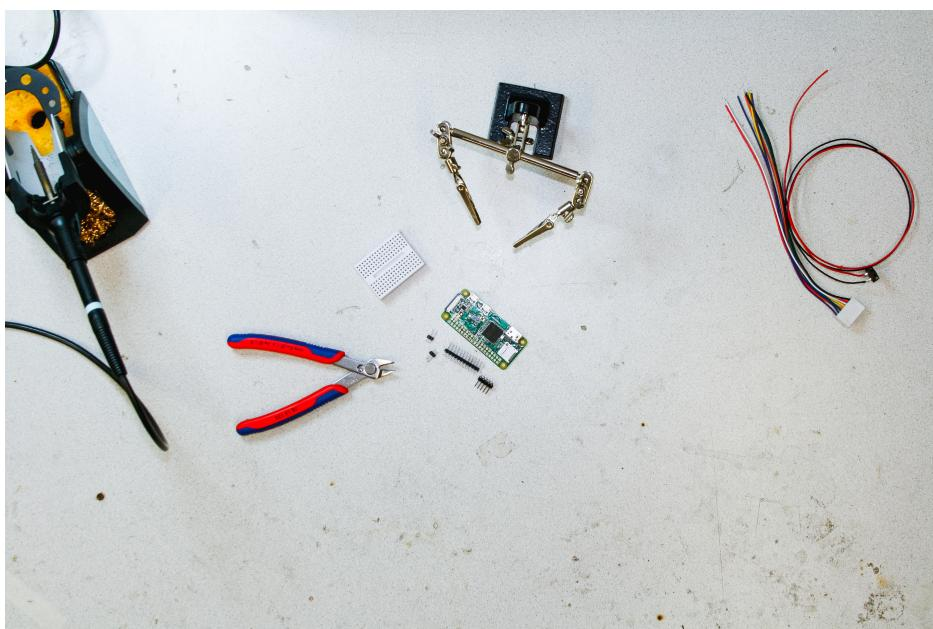

Figure 3.12: Cut the header pin
Step 1 First you need to split your 2x20 header pin in a set of 2x5, 2x12 and 2 times 2x1. See figure 3.12 and Table 3.1. Since this often goes wrong when cutting smaller sets, we provided a few extra 2x1 pin sets.